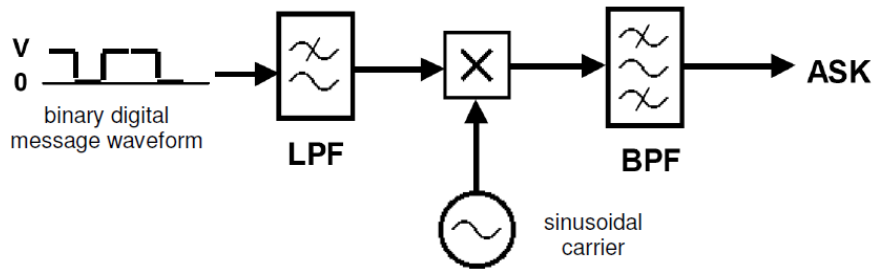
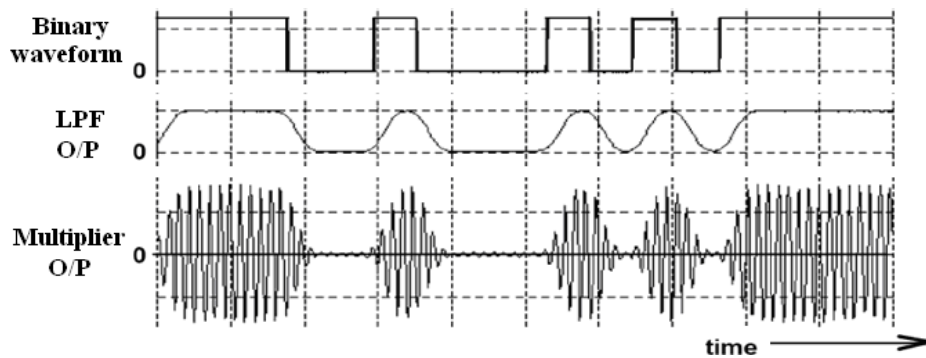
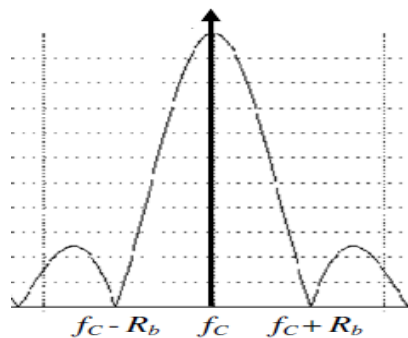

Fig.5 OOK generator showing both message-signal LPF and OOK-signal BPF for band-limiting
Fig.6 Original binary digital message (lower), band-limited message (middle) and OOK signal (upper)
Fig.7 The spectrum of OOK signal after band limiting process
Fig.5 show the pulse shaping process. Fig.6 shows the signals present in the OOK generator, where the message has been band-limited. The shape, after band-limiting, depends upon the amplitude and phase characteristics of the band-limiting filter. Fig.7 show the spectrum of OOK signal after band limiting.
- 4- Simulate the block diagram of **Fig.5**. Draw the output at each stage in time domain and frequency domain.